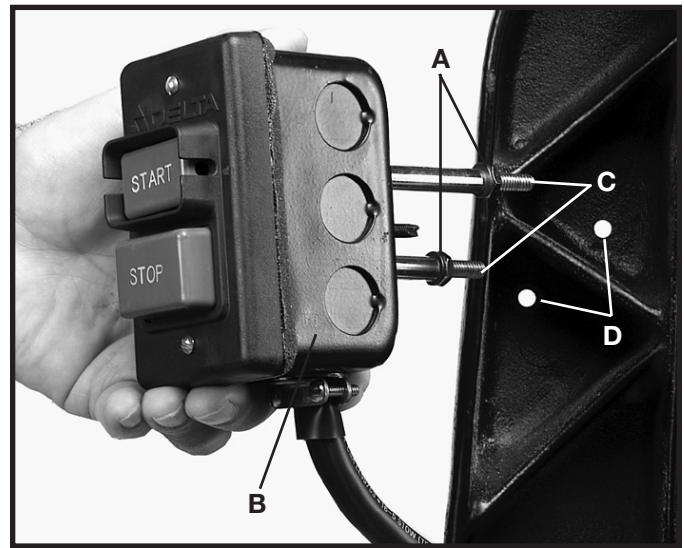

Fig. 10
3. Remove two outer hex nuts and lock washers (A) Fig. 10, from the two screws extending out from the back of the switch box (B).
4. Insert two screws (C) Fig. 10, located on back of switch box, into two holes (D) located in the band saw arm.